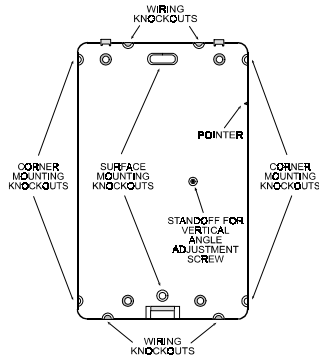

Figure 3. Knockout Locations
- Punch out the appropriate mounting knockouts and wiring knockouts in the base (Fig. 3). The round knockout at the bottom and the elongated knockout at the top serve for surface mounting. The knockouts at the angled sides are provided for corner mounting.